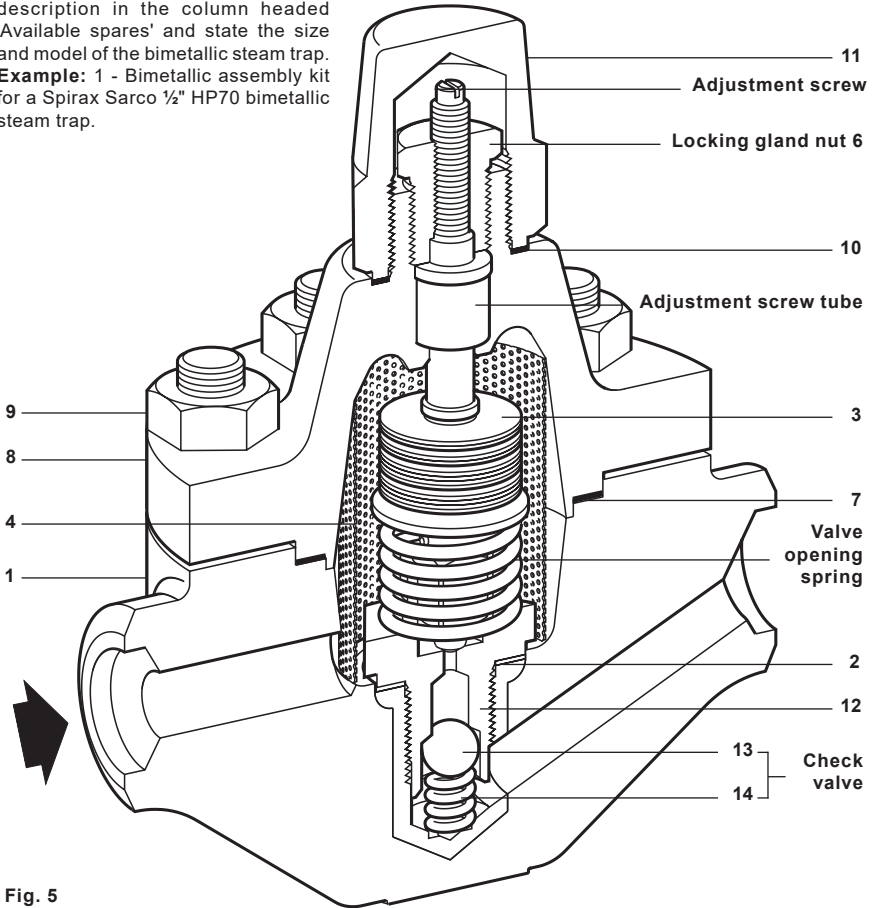

Fig. 5
6.5 Reassembly: Refer to Figure 5.